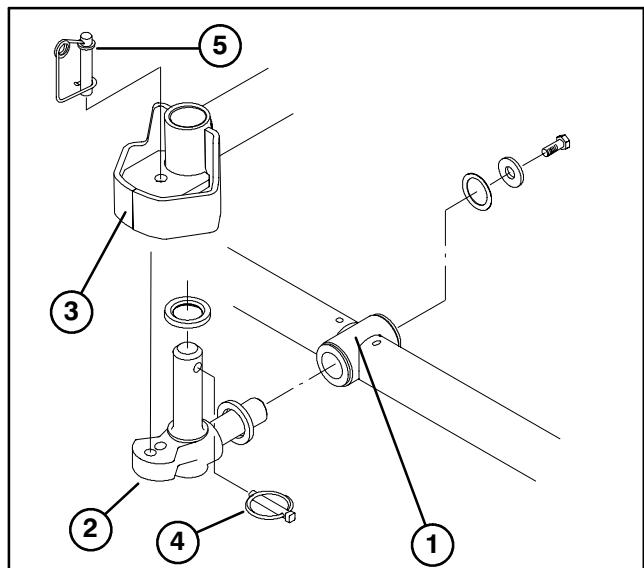

Figure 7
6. Insert a thrust washer onto horizontal shaft of pivot knuckle as shown in figure 7.
7. Insert the horizontal shaft of the pivot knuckle into the mounting tube of the carrier frame (Fig. 7).
8. Secure pivot knuckle to carrier frame with a thrust washer, flat washer and a flange head capscrew (Fig. 7).
9. Insert a thrust washer onto vertical shaft of pivot knuckle (Fig. 7).
10. If removed, Insert the vertical shaft of the pivot knuckle into lift arm pivot hub (Fig. 7). Guide the pivot knuckle in place between the two rubber centering bumpers in the under side of the lift arm steering plate.
11. Insert the lynch pin into the cross hole on the pivot knuckle shaft (Fig. 7).
NOTE: If fixed cutting unit position is required, insert steering pin into pivot knuckle mounting hole (Fig. 7). Hook spring wire around bottom of steering pin.